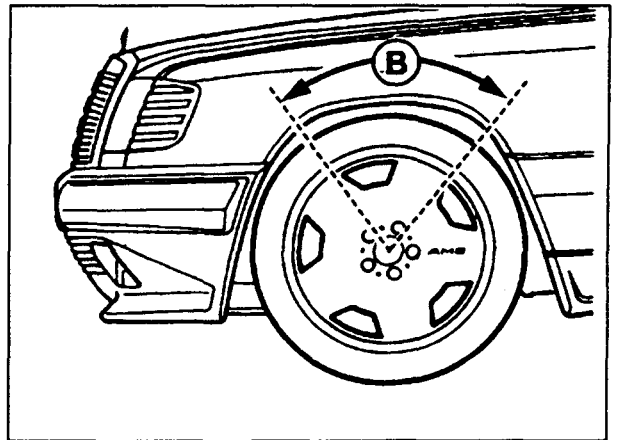

Figure 3
6. Work fender lip contour so that the transition curve (B, Figure 3) is smooth.